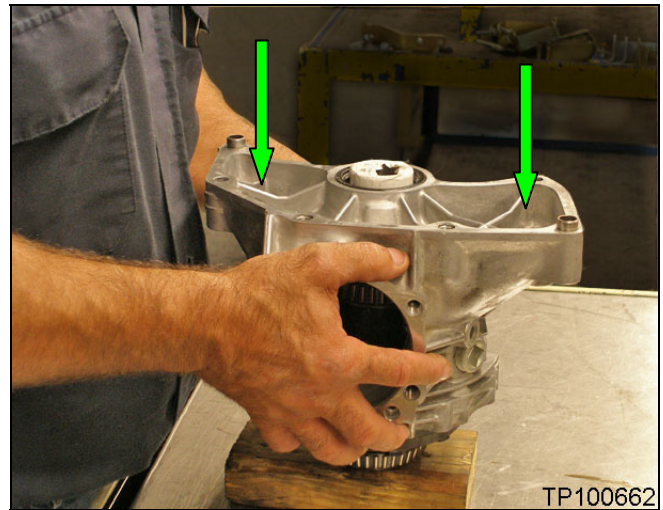

Figure 16
19. Position the drive gear assembly on a wood block, and then install it by carefully lowering the transfer case over it (see Figure 16).